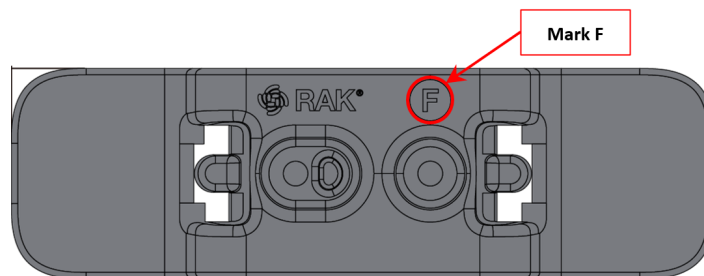

Figure 22: Mount accessory marked with letter F
1. For DIN mount, use two (2) pieces of mount accessories with an indicator marked with the letter **F**, as shown in **Figure 22**.